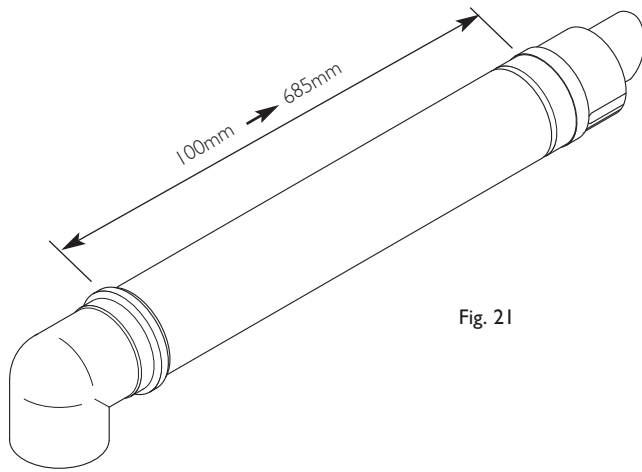

Fig. 21
1. The standard flue is suitable for lengths between 100mm minimum and 685mm maximum, as measured from the edge of the flue elbow outlet to the joint between the terminal and air duct (Fig. 21).